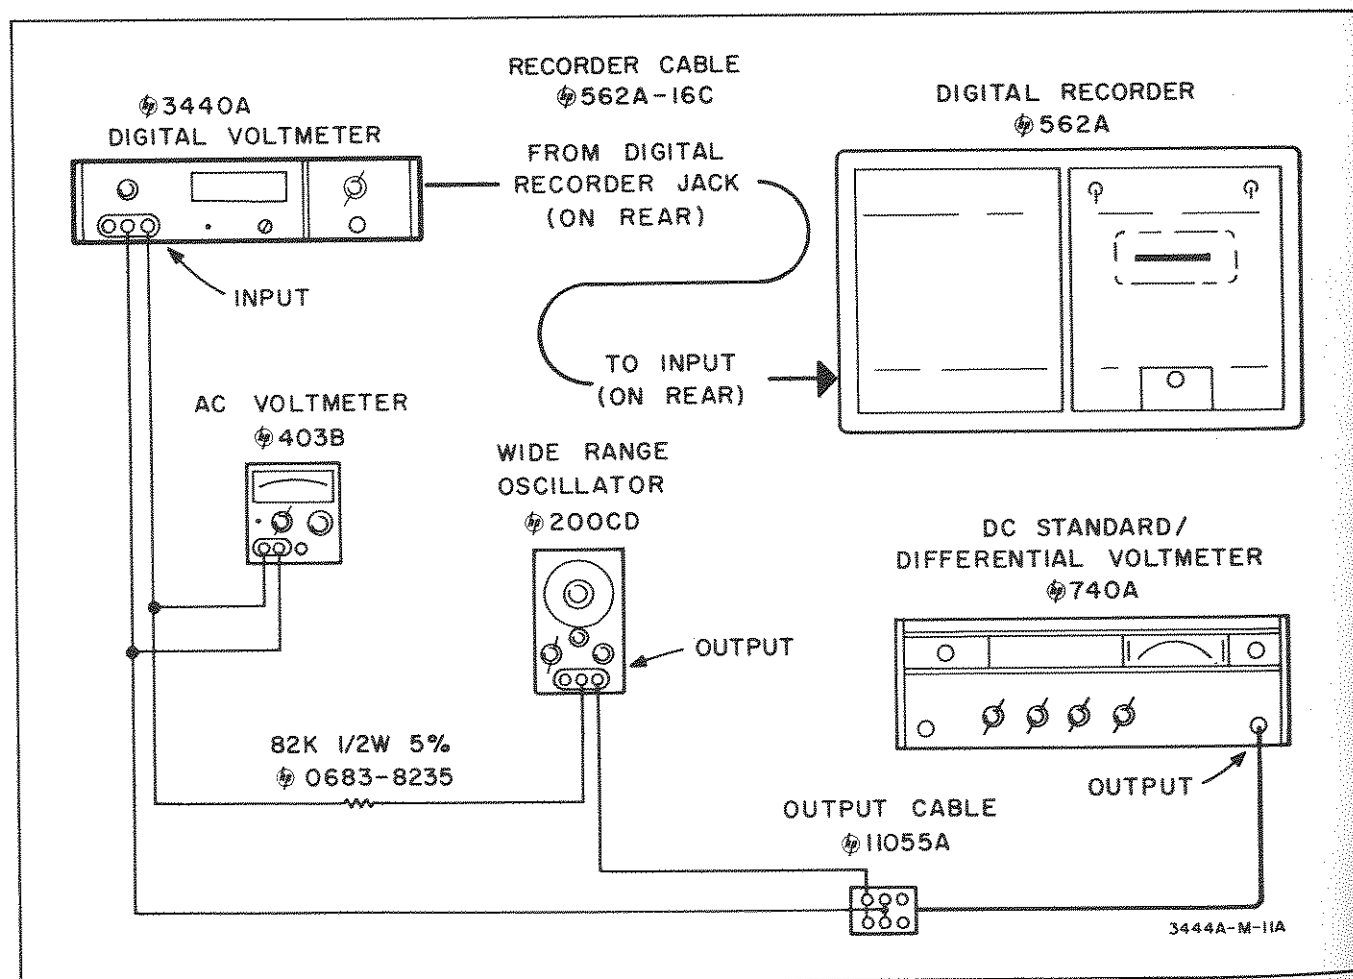

Figure 5-5. Input Filter AC Rejection Check
a. Connect Model 3440A as shown in Figure 5-5.